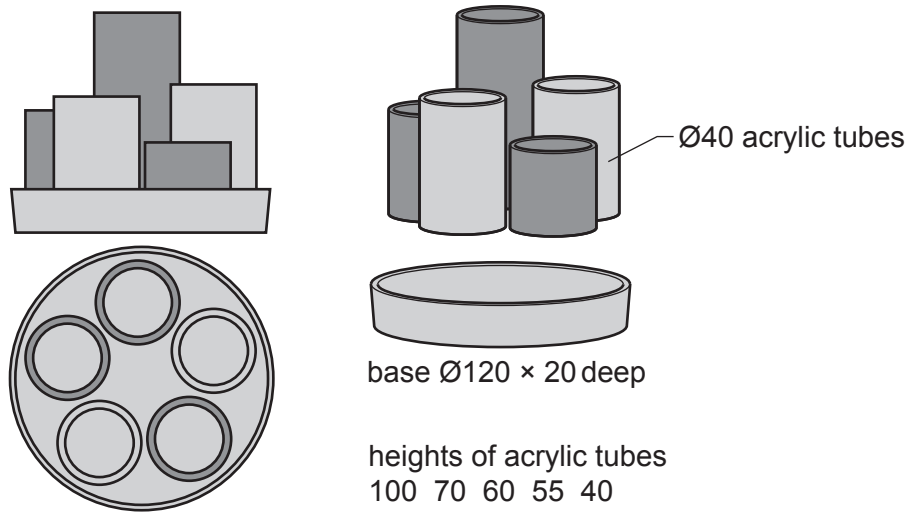

Fig. 13.1
- 13 Fig. 13.1 shows views of a desk tidy that will be batch produced in a school workshop. The desk tidy is made from acrylic.